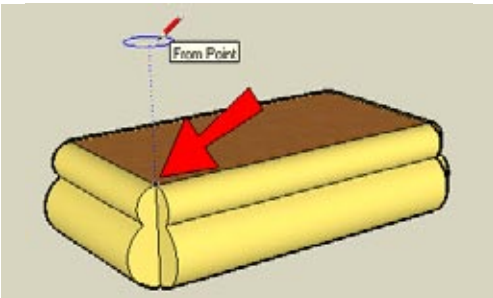

Figure 4-19
6. At each corner, you need a rounded version of the rounding face. Therefore, you need to draw a Follow Me circle. This circle must be located away from the table so that it won't break the table's geometry. Activate Circle and orient it to the table top (again, the preview color should be blue). Since the circle will be located above this corner, move the mouse directly up, watching for the blue inference line (Figure 4-19).